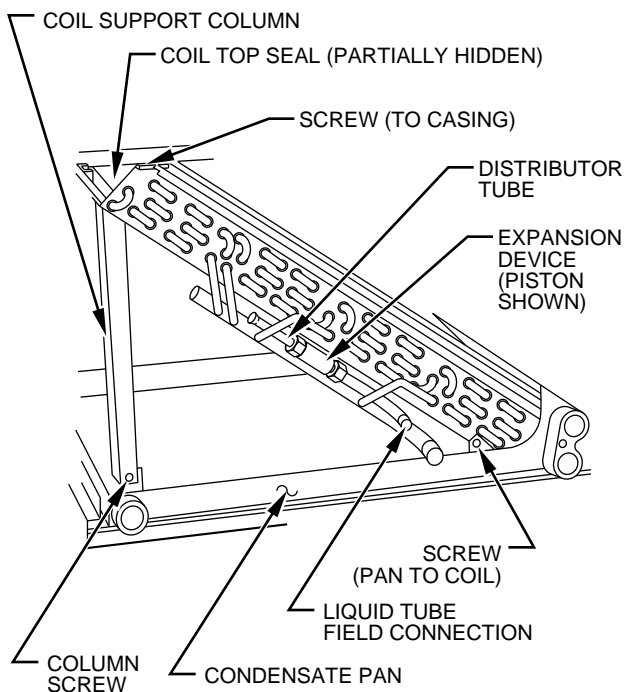

Fig. 31—Slope Coil Component Location
8. Place assembly on a flat surface. Remove 2 screws securing coil support columns to pan. (See Fig. 31.)
12. Remove coil top seal. (See Fig. 31.)